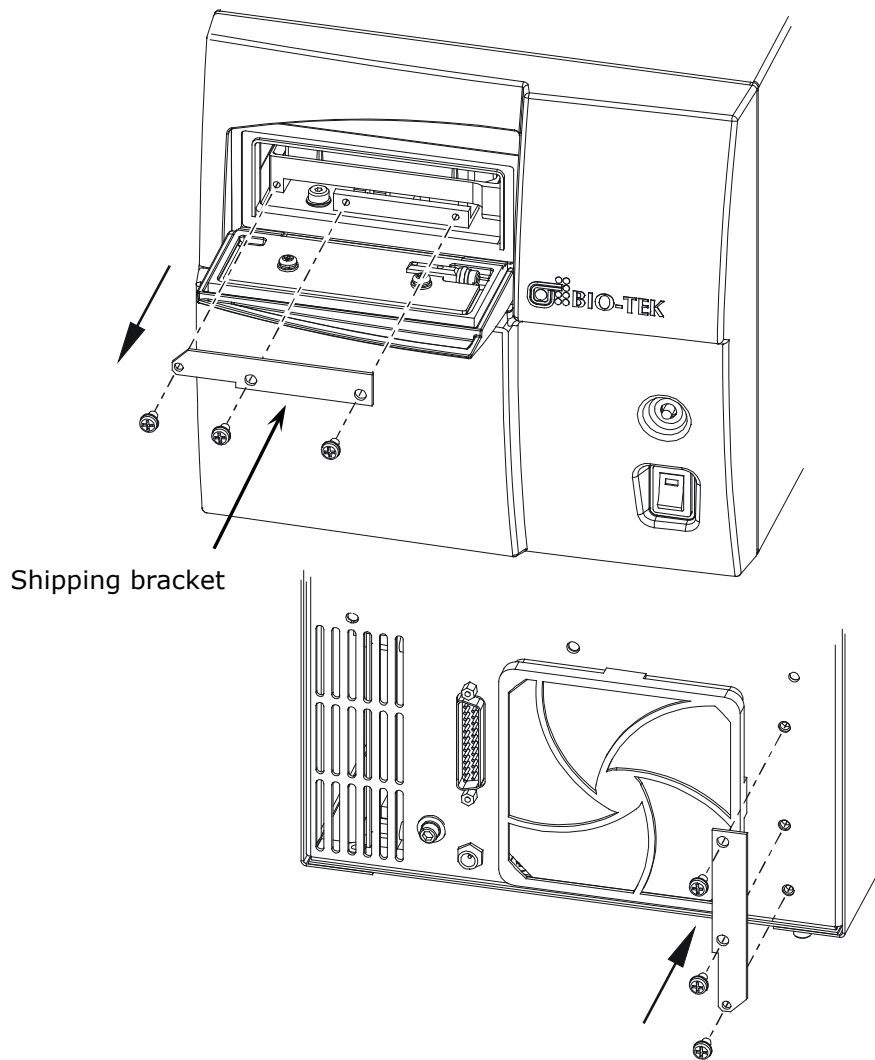

Figure 1: Remove the carrier shipping bracket and store it on the back of the reader
Important! The PowerWave ships with a microplate carrier shipping bracket that must be removed before the reader is used. See **Figure 1**.
- Refer to **Figure 1** on page 30. Using a screwdriver, remove the carrier shipping bracket and screws from the back of the reader.